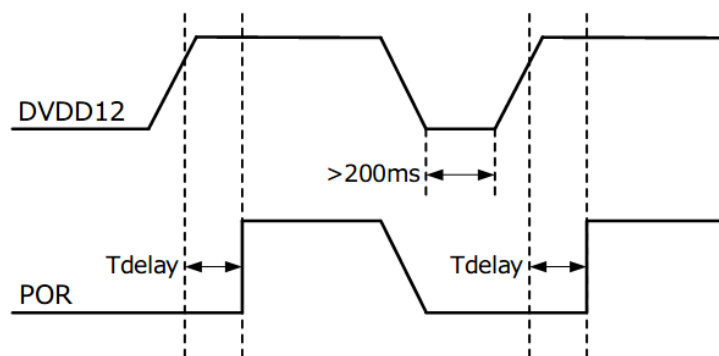

Figure 5-2 POR output waveform when DVDD12 sets OFF to ON
- If DVDD12 sets 1.2V -> 0V -> 1.2V, DVDD12 as 0V period has to keep over 200ms as below Figure 5-2.